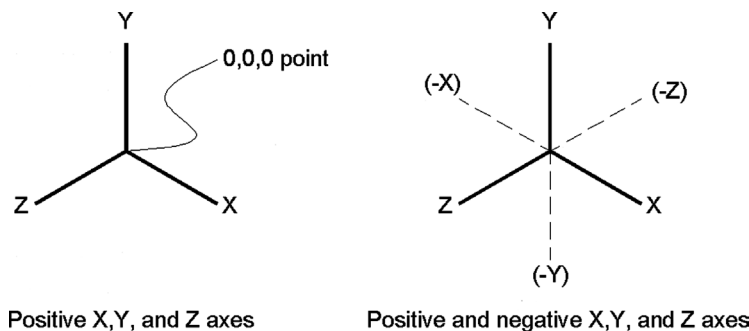

FIGURE 21.1 The X, Y, and Z axes.
- Concept 1.** There exists in the Cartesian coordinate system a total of three axes: X, Y, and Z. These axes intersect each other at the 0,0,0 point, as seen in Fig. 21.1 (left), and by definition can be positive or negative, as represented by solid and dashed lines in Fig. 21.1 (right).